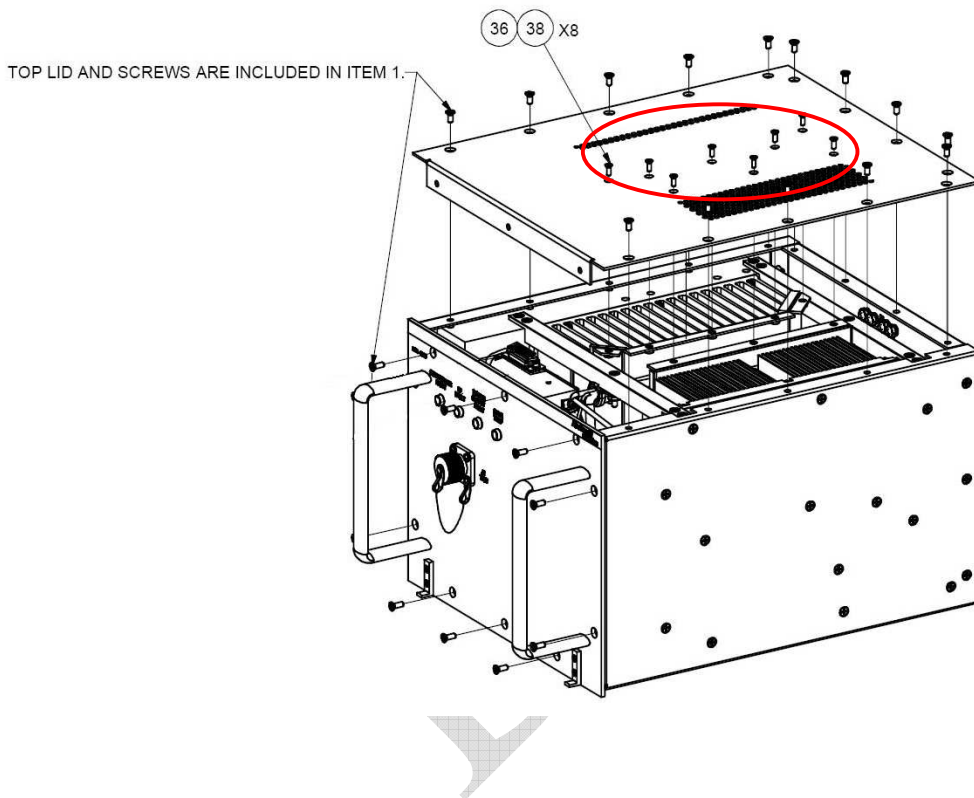

Figure 8.6
- Place top lid onto the housing as shown on the Figure 8.6